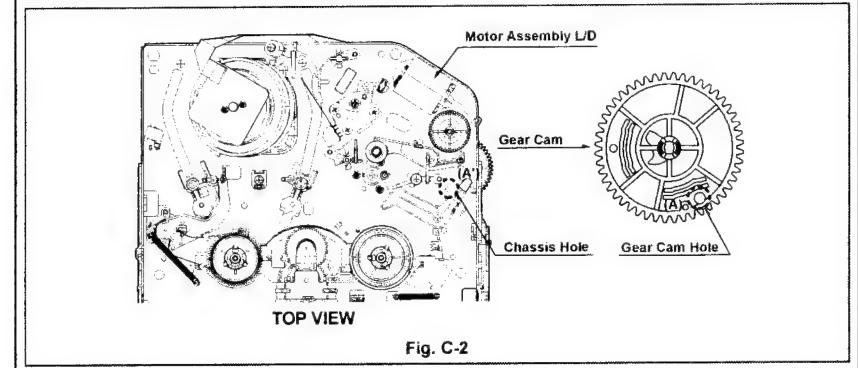

Fig. C-2
2) Separate both top cover and plate top, and check both the hole (A) of gear cam and the hole (A') of chassis correspond (Fig. C-2).
5) Check the mode S/W on the main P.C. board locates at a proper position as in (B) of the Fig. (C-1).